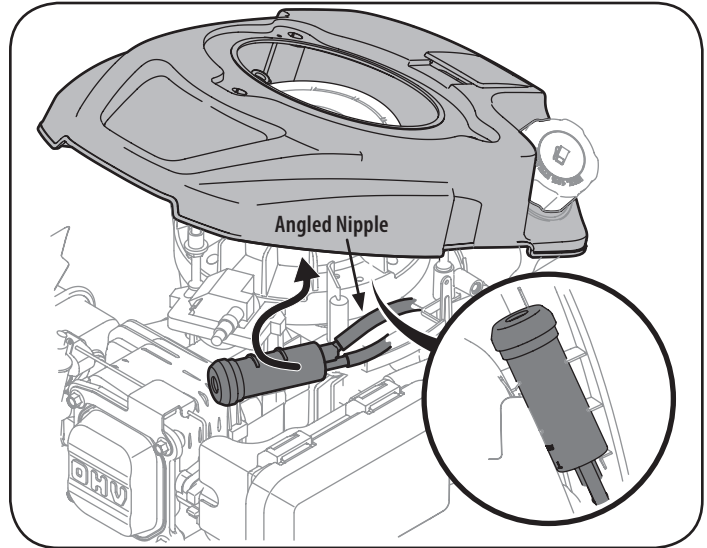

Figure 21
7. Snap the carbon canister filter assembly back into place under the inner engine shroud. See Figure 21 inset.